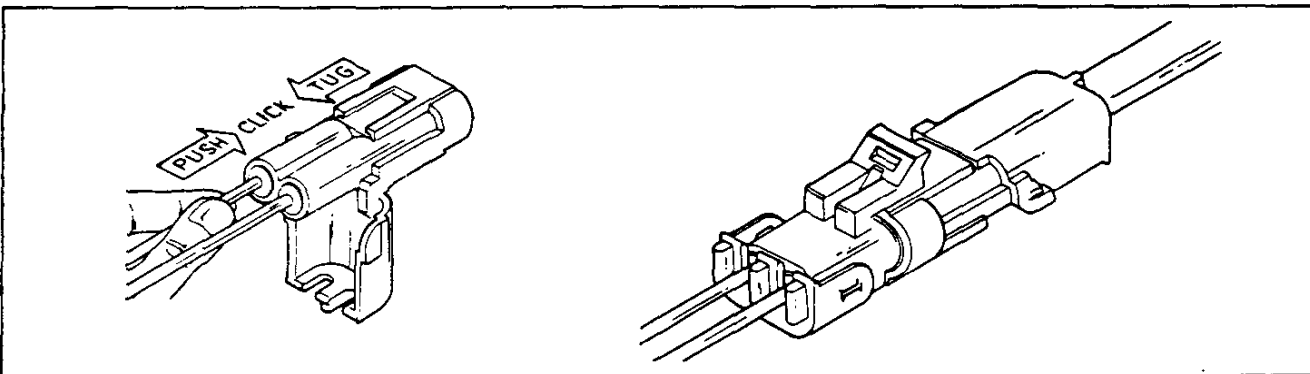

Figure 47
5. Use (Fig. 47) for installing new terminals to the connector.